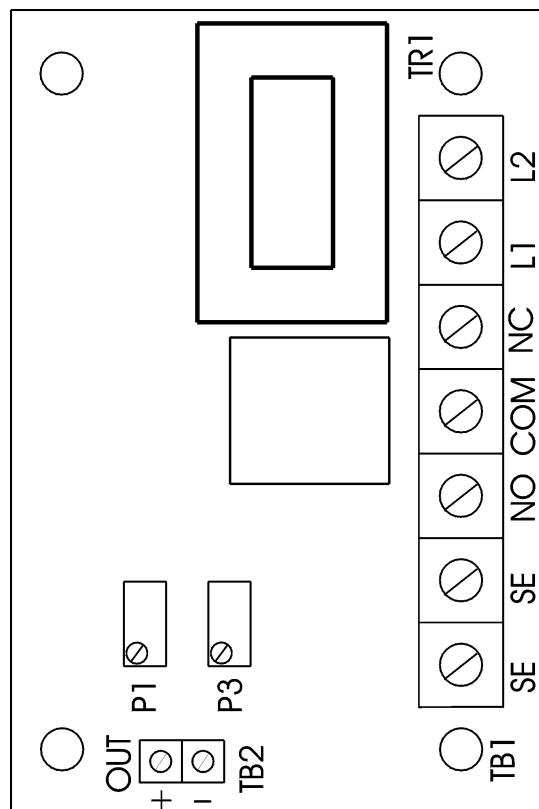

Figure 10
3. Locate the high-humidity alarm circuit board (refer to Figure 10).
12. With a small slotted screwdriver, adjust P1 on the high-humidity circuit board (Figure 10) clockwise and counterclockwise. Find the adjustment point where the contacts open and close. Leave adjustment where the contacts just close.